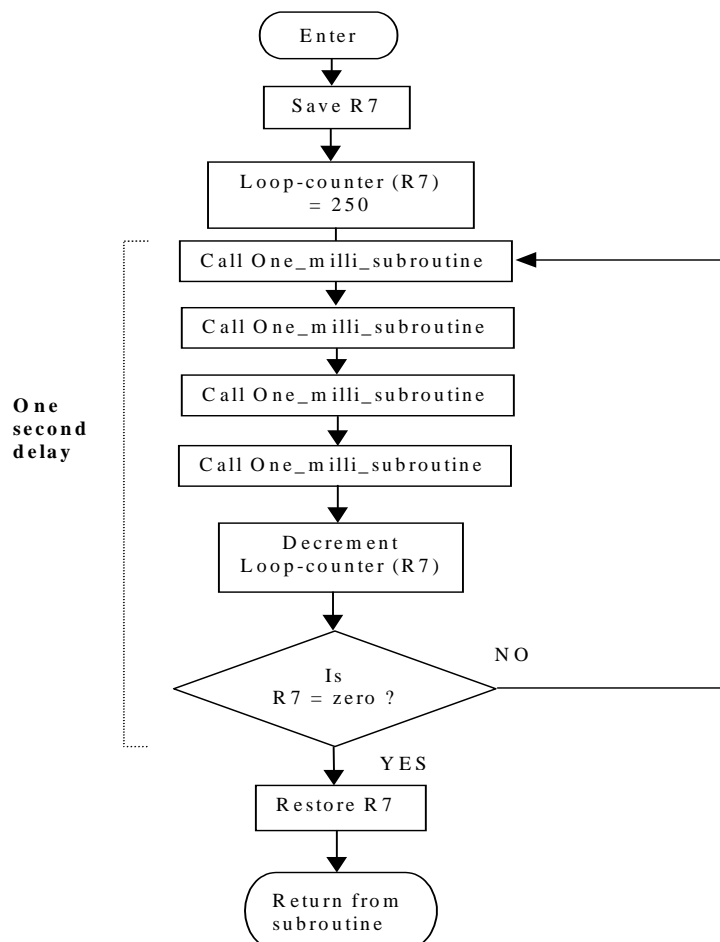

Figure 3.2 ONE_SEC_SUB flow chart
The ONE_SEC_SUB subroutine, when called, causes a delay of ONE second. This subroutine calls the ONE_MILLI_SUB subroutine and is structured so that the ONE_MILLI_SUB subroutine is called exactly 1000 times, thus causing a total delay of 1000 milli. seconds, i.e. ONE second. (There are some small inaccuracies, which will be ignored for now). Note, R7 is used again as the loop counter (we could have used another register). Since R7 is preserved in the ONE_SEC_SUB subroutine, its value is not corrupted within the ONE_SEC_SUB subroutine. This example shows how one subroutine can call another subroutine, demonstrating the concept of *subroutine nesting*. It is interesting to track the value of the Stack Pointer (SP) during program operation. The flow chart for the ONE_SEC_SUB routine is shown in figure 3.2 and the source code is shown in listing 3.2.